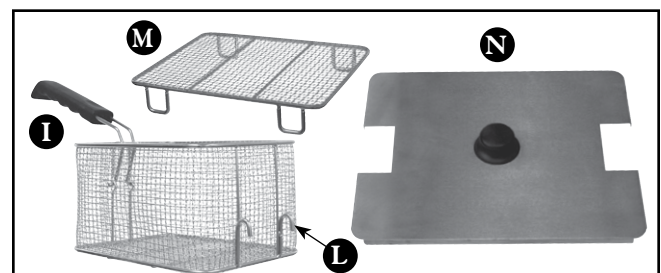

Figure 4. Basket and Accessories
- L BASKET HOOKS** (Figure 4)
- N WELL COVER** (Figure 4)